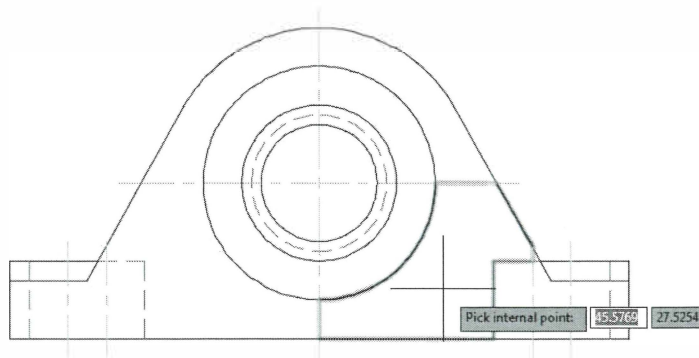

Figure A-16
4. Select a point inside a closed area, as shown in Figure A-16. You can select points in multiple closed areas.